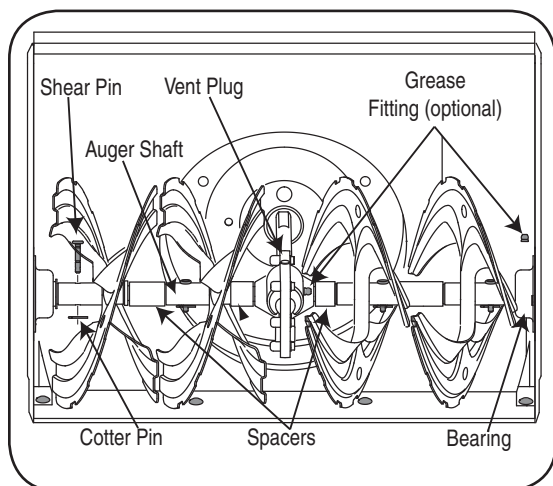

Figure 6-2
At least once a season, remove the shear pins on auger shaft. Spray lubricant inside shaft, around the spacers. Also lubricate the flange bearings found at either end of the shaft. See Figure 6-2.
- The augers are secured to the spiral shaft with shear pins and cotter pins. If the auger should strike a foreign object or ice jam, the snowthrower is designed so that the pins may shear. See Figure 6-2.